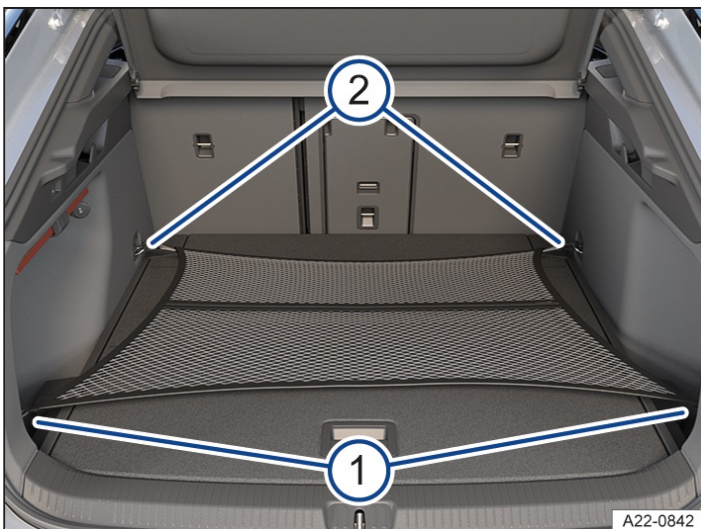

Fig. 1 In the luggage compartment: luggage net fitted flat.
1. Hook the hooks of the luggage net into the fastening rings → Fig. 1 ② → ⚠.